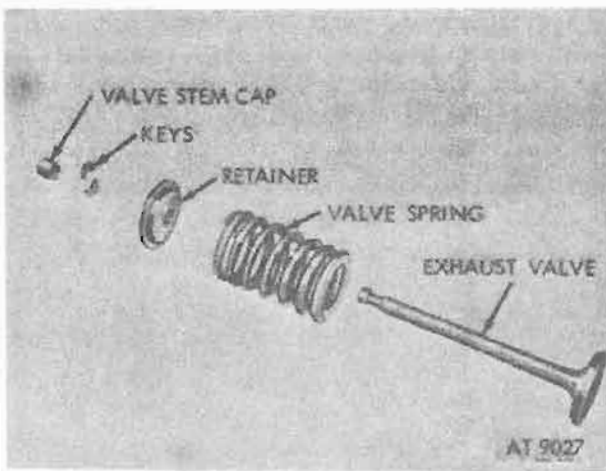

Figure 4-122. Exhaust valve assembly.
(3) *Exhaust valve.* Withdraw exhaust valve from valve guide and identify with grease pencil so it can be installed in same guide from which it was removed. Repeat the above procedure on all four valves (fig. 4-122).
(3) *Exhaust valve installation.* Install each valve in guide from which it was removed or to which it was fitted. Refer to figure 4-122.